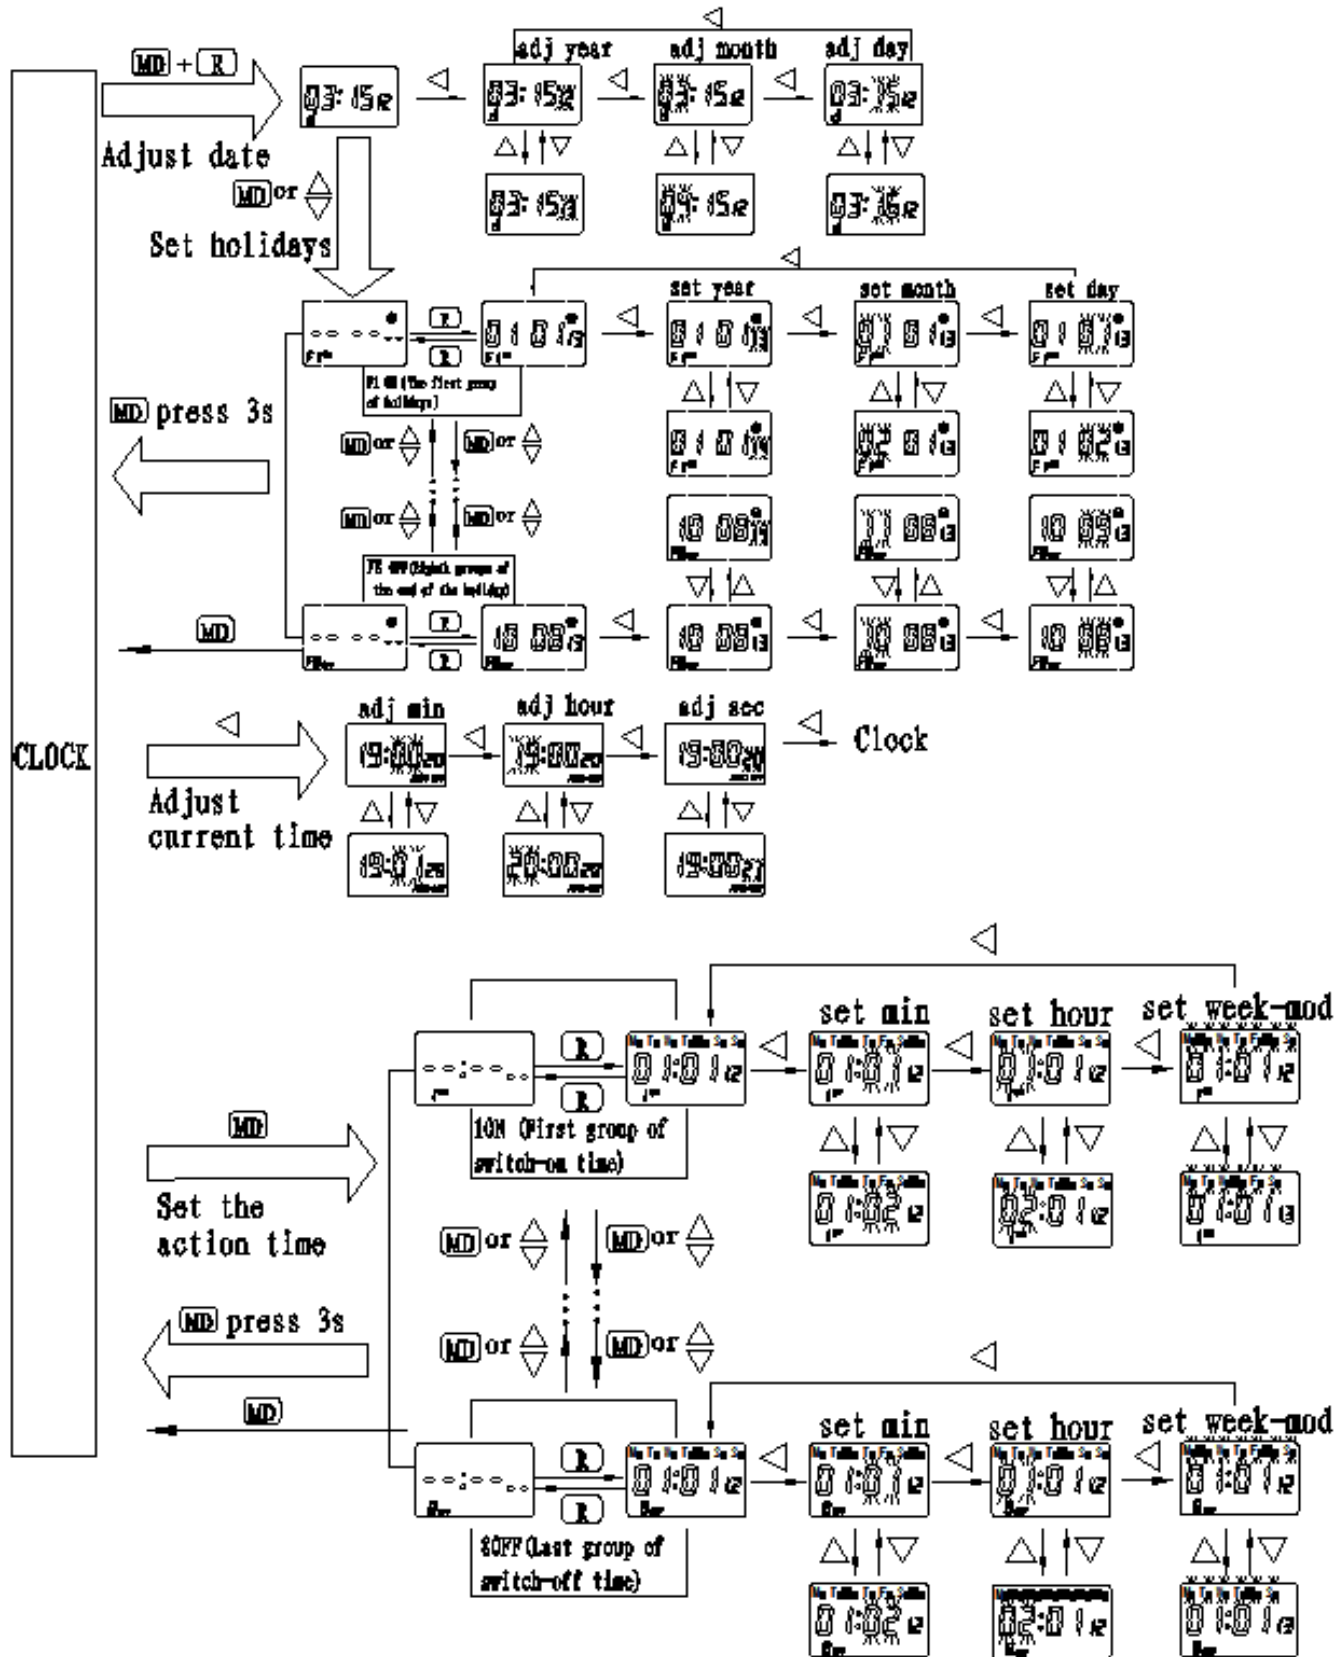

Figure 6 Time switch parameters setting process
4.1 Setting process for Time Switch of Belling apparatus parameters (see Figure 6).